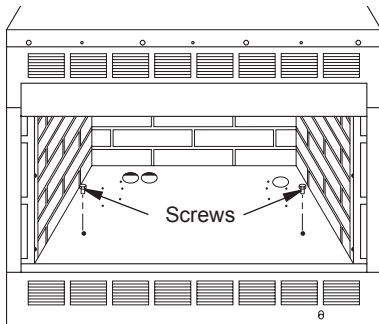

Figure 8 - Removing Screws from Firebox Bottom
If placing custom mantel above built-in firebox, you must meet the minimum allowable clearance between mantel shelf and top of firebox opening shown in Figure 8. These are the minimum allowable mantel clearances for a safe installation. Use larger clearances wherever possible to minimize the heating of objects and materials placed on the mantel.
If your installation does not meet the minimum clearances in Figure 8, you must:
- a. Remove the 4 screws that secure the bottom of the firebox (see Figure 8).